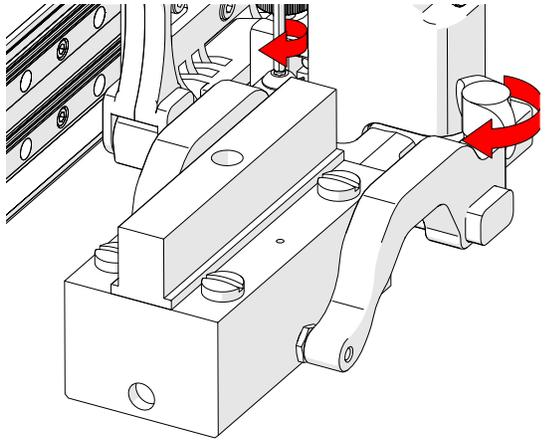

Fig. 111 - Tighten knobs and screws
7. Tighten both the probe holder adjustment knob and the arm clamp screw (Fig. 111) while ensuring the wedge remains centred with the yoke.